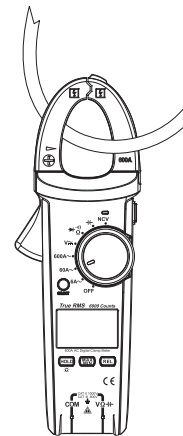

Figure 3
**IX. Instructions for measurement operation****1. AC measurement (see Figure 3)**